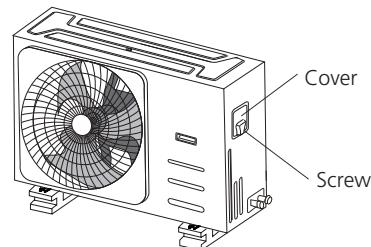

Fig. 7.1
- Remove the electric cover of the outdoor unit. If there is no cover on the outdoor unit, disassemble the bolts from the maintenance board and remove the protection board. (See Fig. 7.1)